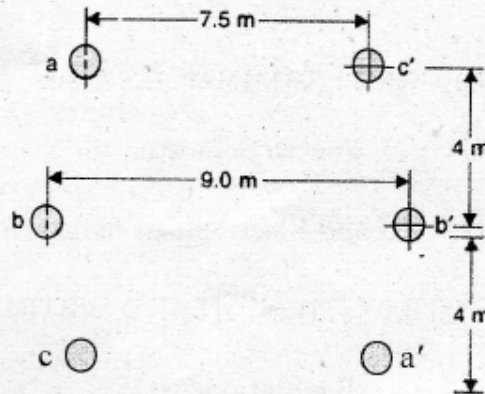

Figure 11(a)
11. (a) Determine the inductance per km of a transposed double circuit 3-phase line shown in Figure 11(a) below. Each circuit of the line remains on its own side. The diameter of the conductor is 2.532 cm.